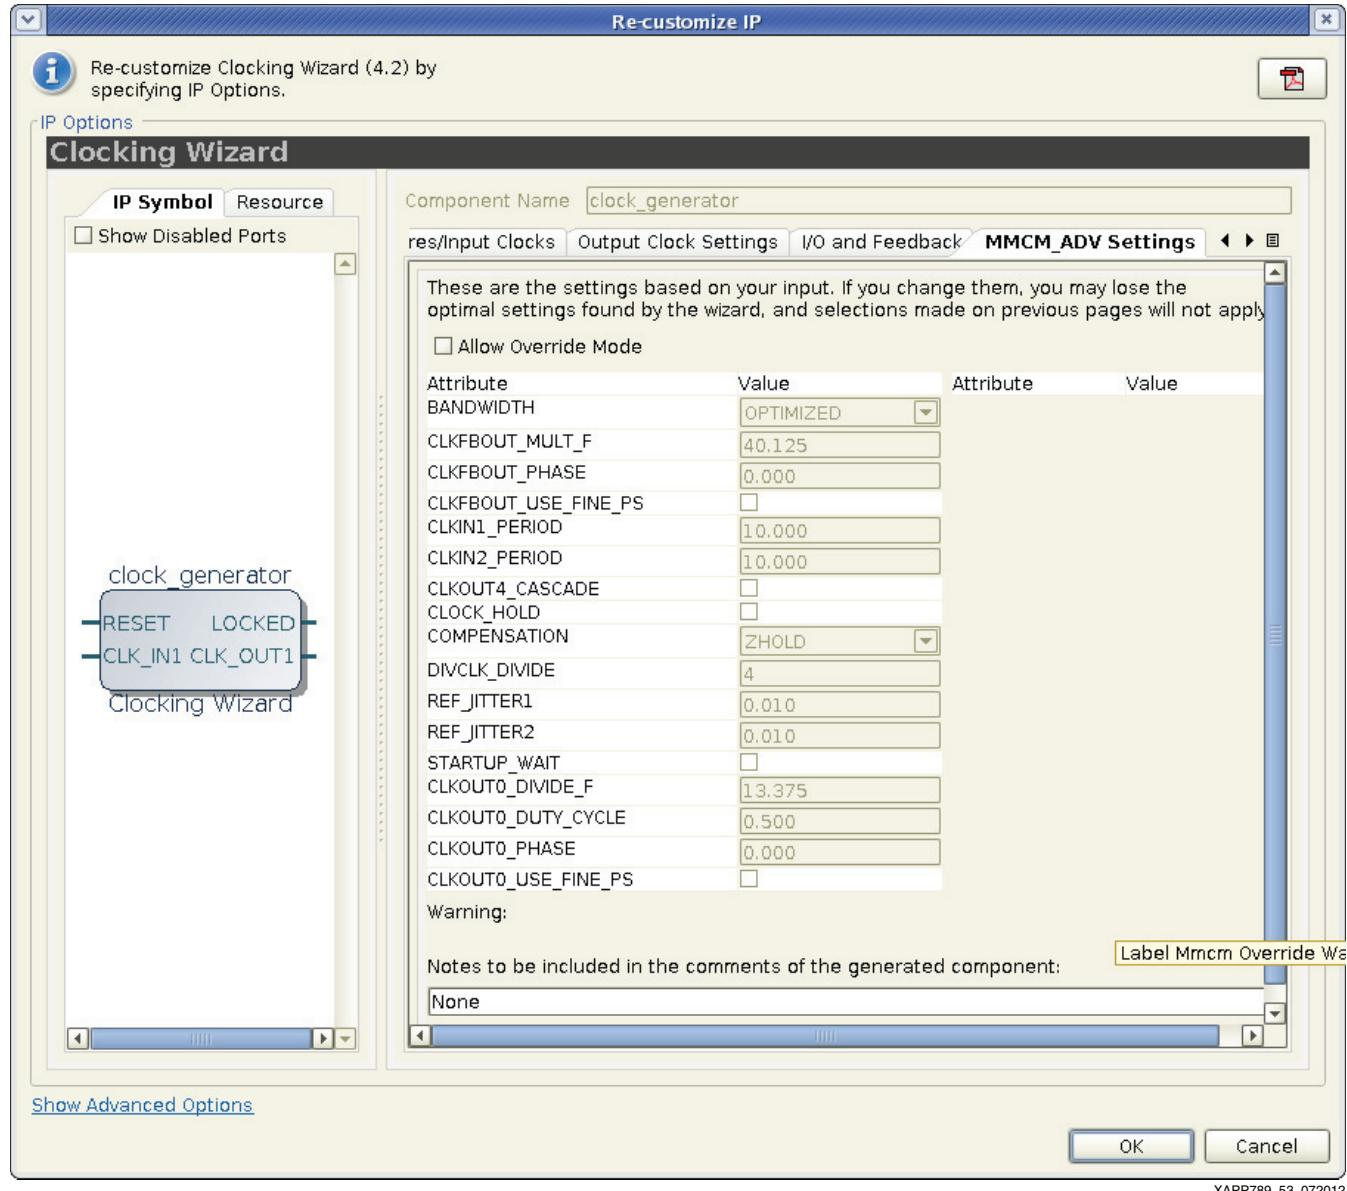

Figure 53: Clocking Wizard MMCM_ADV Settings
44. Click the **MMCM_ADV Settings** tab and review the settings (Figure 53).